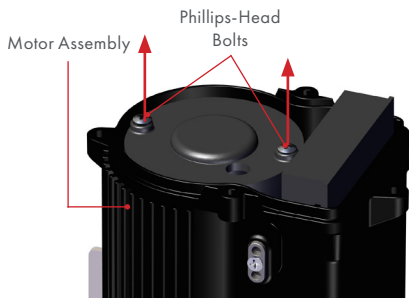

Figure 2
3. Unscrew the (2) **Phillips-Head Bolts** that hold the **Motor Assembly** to the **Pump Housing**. **FIG 2**